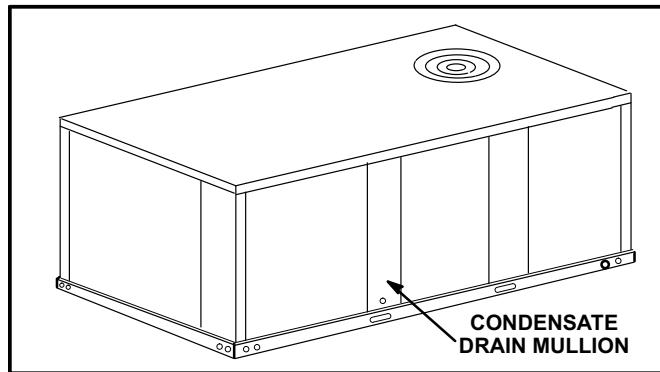
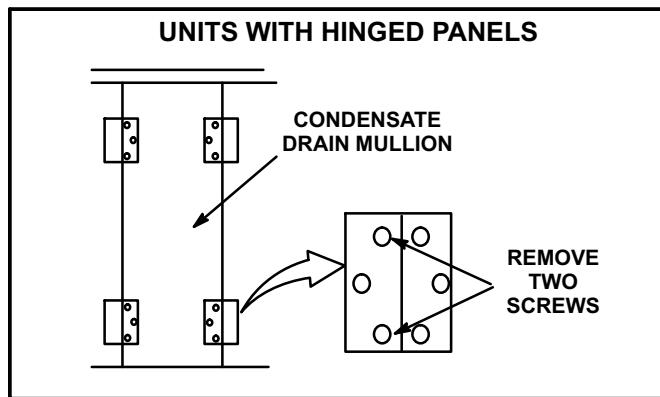

FIGURE 7
FIGURE 8
- 1- Remove the condensate drain mullion. See figure 7.
If the unit has hinged panels, two hinge screws must be removed in addition to the mullion screws. See figure 8.
- 1- Remove the condensate drain mullion. See figure 7. If the unit has hinged panels, two hinge screws must be removed in addition to the mullion screws. See figure 8.